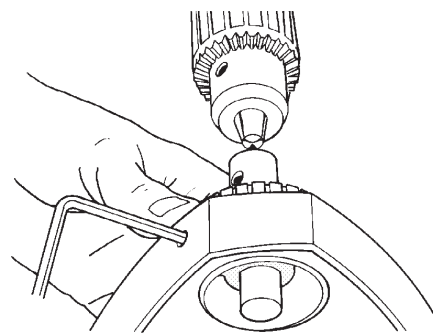

Figure B-117
- a. To adjust the cup center point **horizontally**, loosen the set screw that locks the adjustable center, as seen in Figure B-117. Rotate the adjustable center as needed to line up the cup center with the drill chuck, then tighten the set screw.